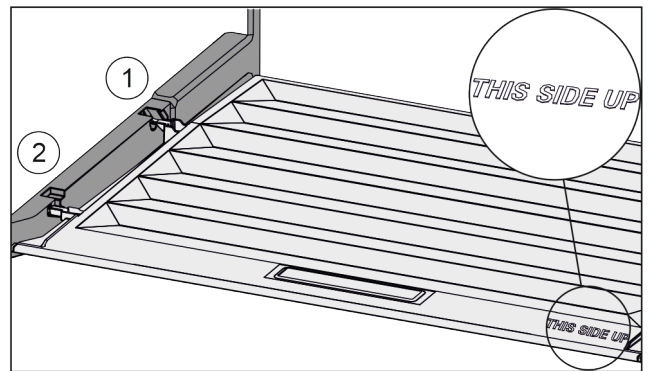

Fig. 139
- Insert the lip of the cover over the opening of the rear bracket Fig. 139 (1) and click into place Fig. 139 (2).